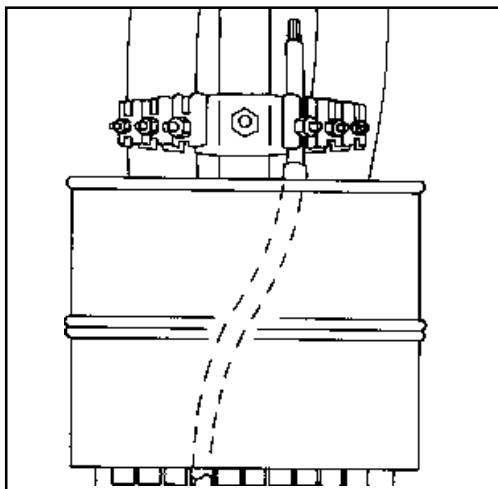

FIGURE 3- DROP WIRE TO DROP WIRE CLAMP
- 3.06** Attach the drop wire to the drop wire clamp assembly. Be certain that the extended shield is placed under the clamp. Figure 3.